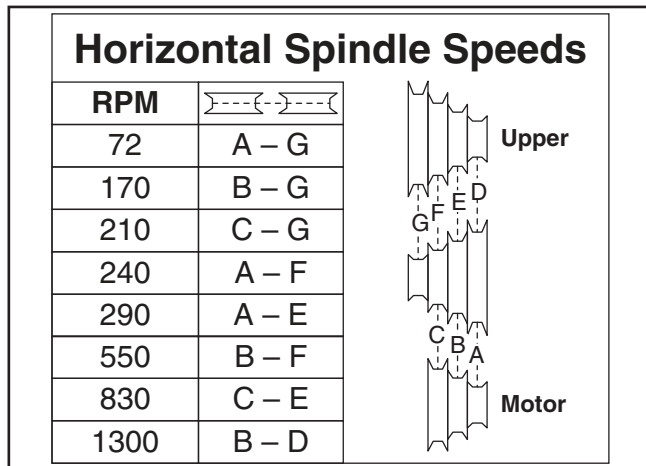

Figure 37. Horizontal spindle speed chart.
5. Arrange V-belts for desired horizontal spindle speed (see **Figure 37**).